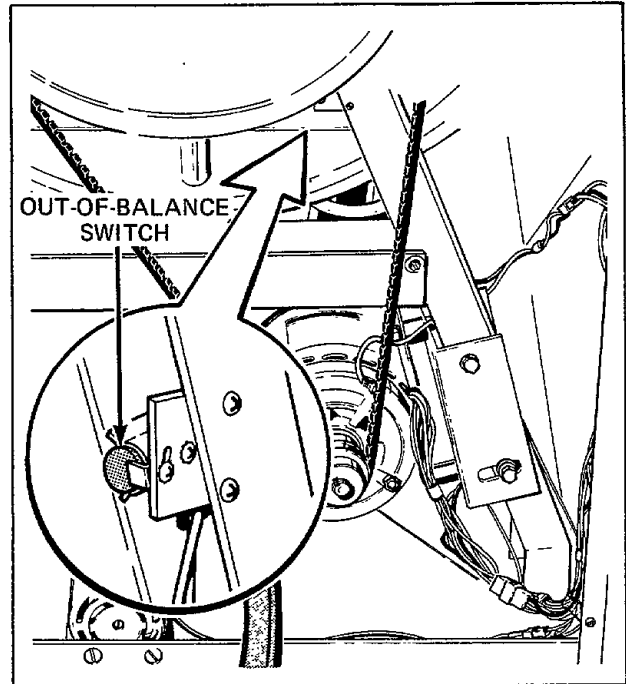

Figure 33
- b. Disconnect switch wires at connectors and disengage switch from clamp, *Figure 33*.